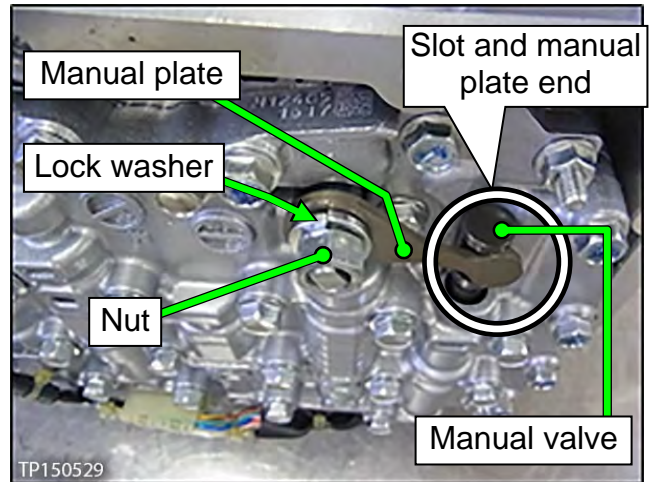

Figure 11J
7. Install the manual plate, lock washer, and nut (Figure 11J).